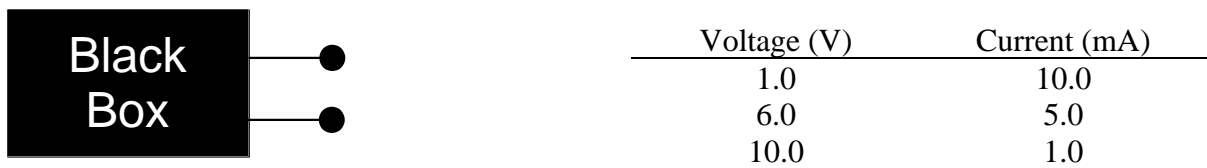

Figure 11 The black-box circuit and data for problem 2.
2. You measure the data in the table in Figure 11 for the  $I$ - $V$  curve between the two output terminals of the black-box circuit shown in Figure 11. (a) Make an accurate sketch of the  $I$ - $V$  curve for your data. (b) What is the open-circuit voltage between the two terminals? (c) What load resistance was used to measure the 10 V data point?